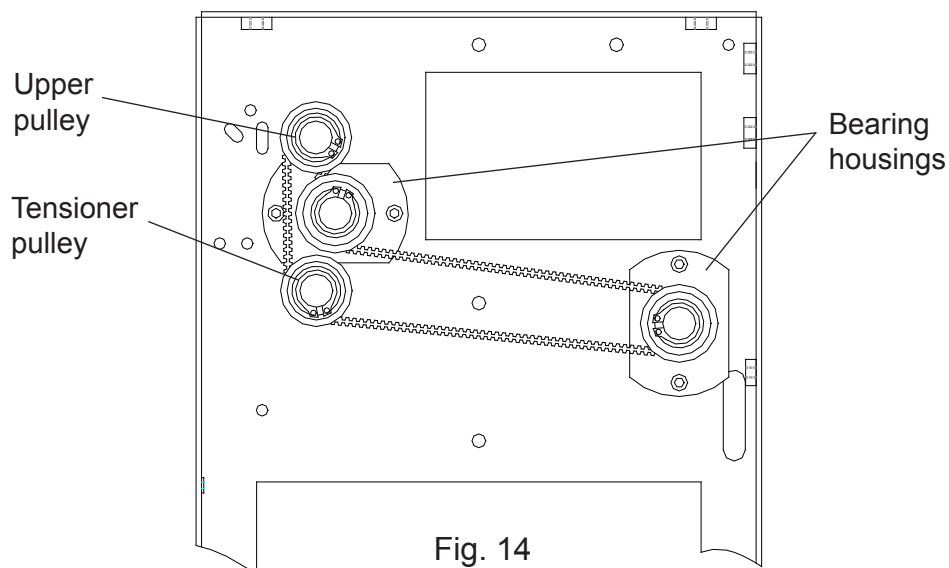

Fig. 14
1. On the RH side, slacken the screw behind the tensioner pulley to relieve belt tension (see Fig. 14 below). Turn the unit by hand to wind the belt off. Note that the screw is awkward to reach, but a standard Allen key should allow slackening. The upper pulley may also need to be slackened to allow belt removal/replacement.
2. Remove the pulleys in front of the upper bearing housing (see Fig.14) - these are retained with a circlip.